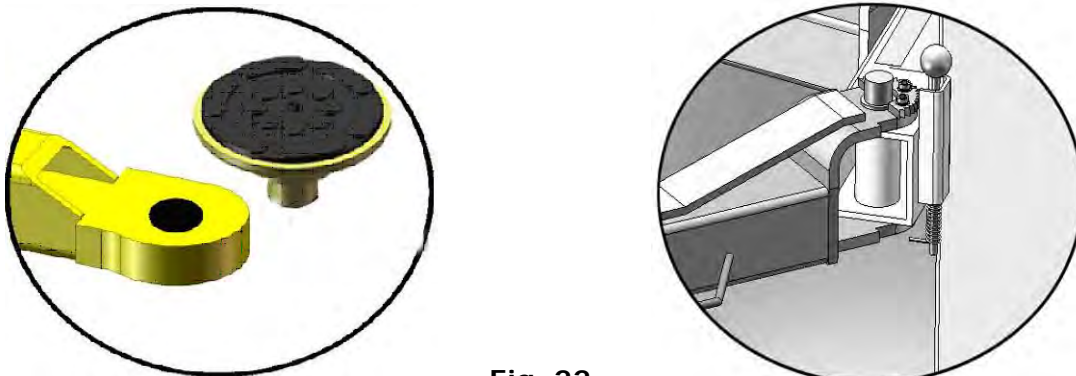

Fig. 22
1. Install the Lifting Arms (See Fig. 22).